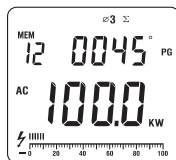

Figure 14
- If necessary, press Σ to get the sum of watts as figure 14.